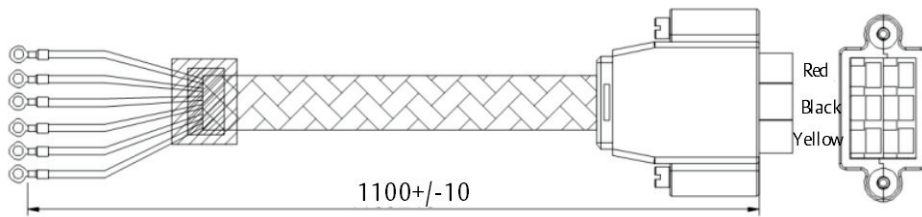

Figure 2-7 Single POD I/O cable A (UPS)
1. Take out the cables shown in Figure 2-7 from the POD package.